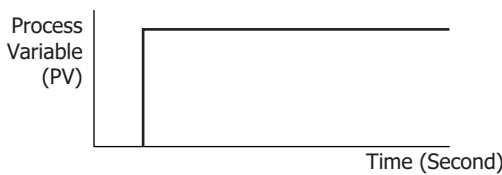

Figure 1. Process variable (PV) before PV filtering process
**(3) Control Register +63: PV Filter Time Constant**
The PV filter function is a software filter to stabilize the process variable (PV) affected by fluctuating processes, such as the pressure or flow rate, by calculating first-order lag of the process variable (PV). Even if the process variable (PV) changes as shown in the Figure 1, when the PV filter time constant is configured, the process variable (PV) changes as shown in the Figure 2. After the PV filtering process, the process variable (PV) reaches 63% of the process variable (PV) in T seconds.